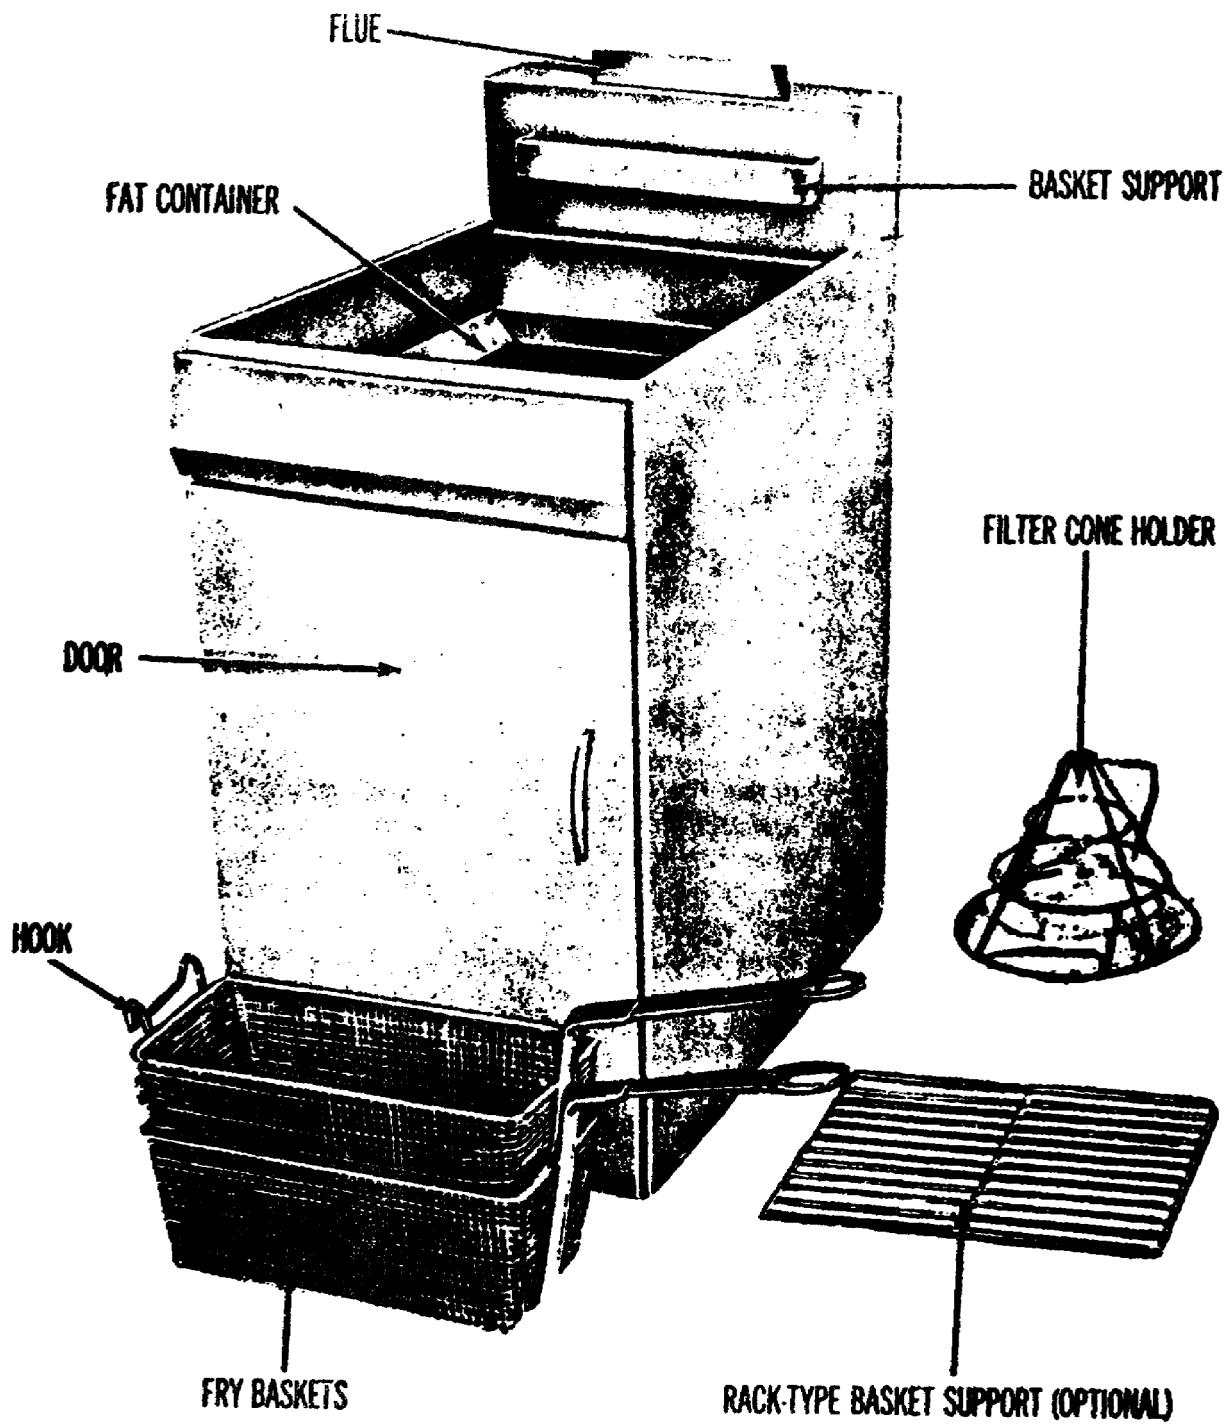
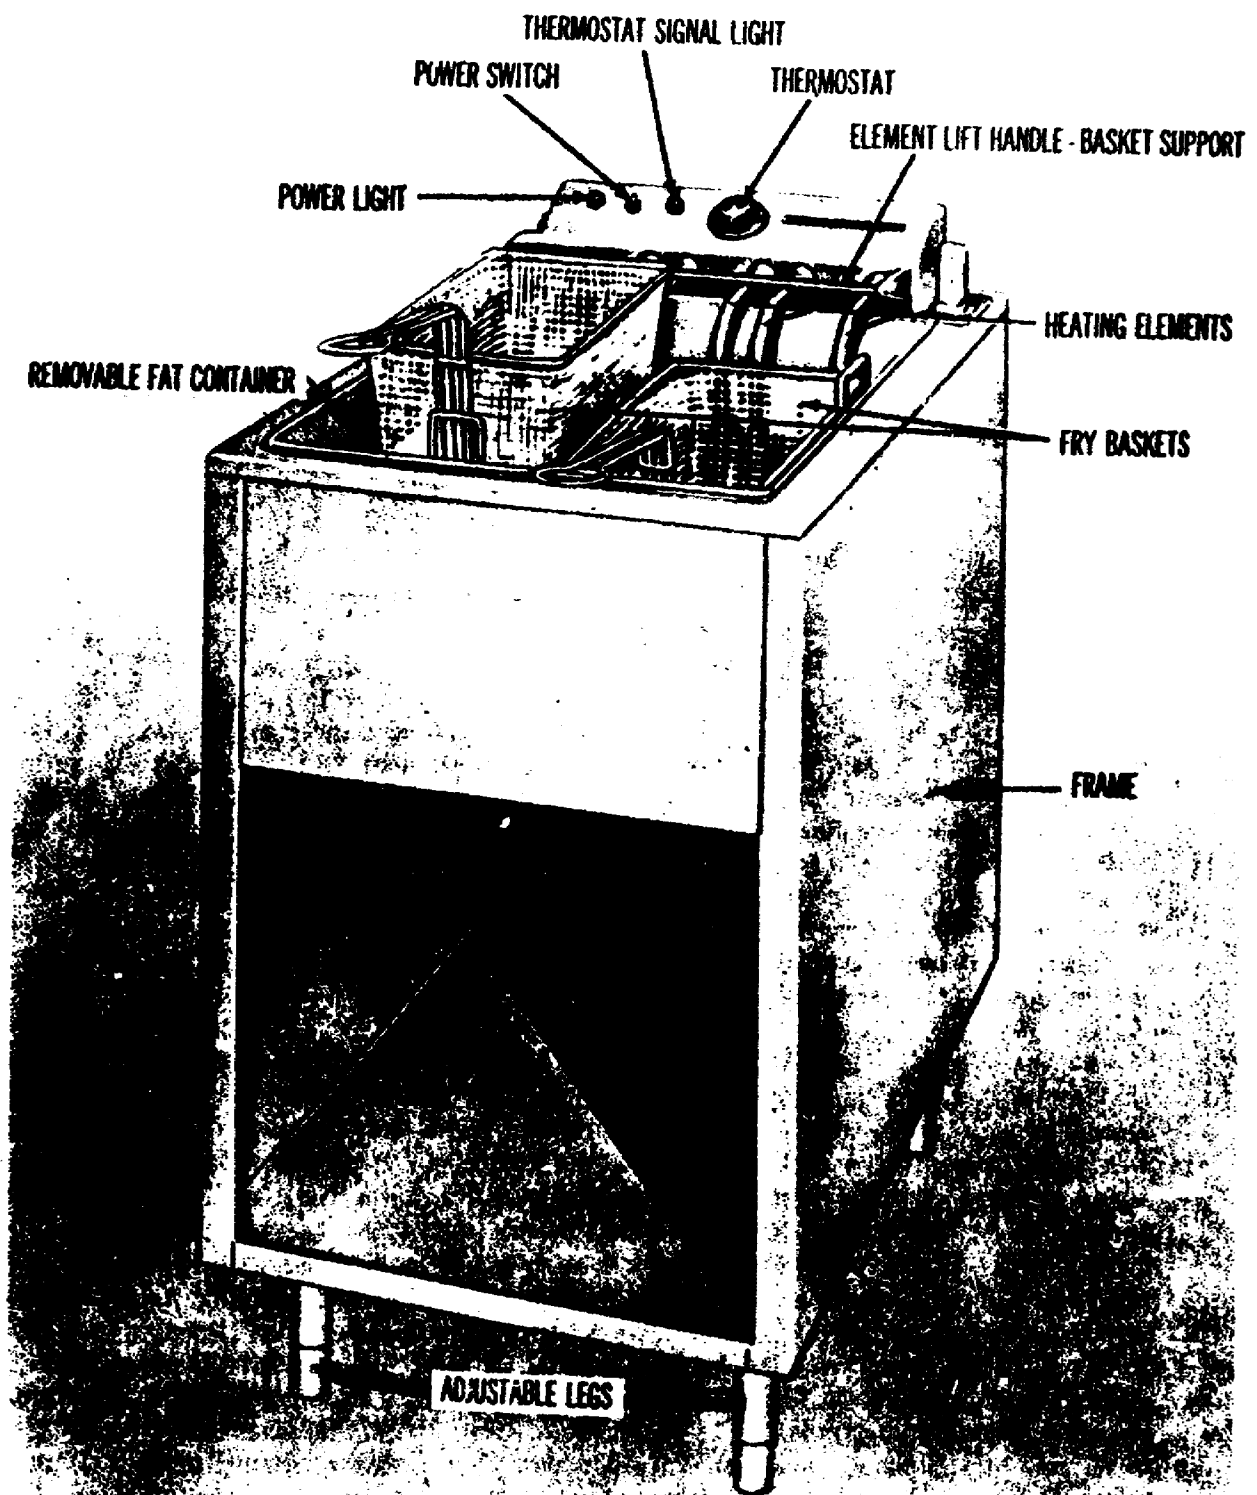

Figure 17. Gas-heated deep-fat fryer.
Figure 18. Electric deep-t fryer.
17. **DEEP-FAT FRYER.** This fryer consists of a fat container, heating unit, temperature control, and draining device. Fryers may be heated either by gas or electricity. The capacity of a deep-fat fryer is rated in the number of pounds of raw potatoes that it can fry in an hour. The capacities of authorized fryers are 30, 35, 60, or 90 pounds, and the temperature range is usually 200° to 400° F. Gas fryers (fig. 17) may be either burner or heat-tube type; both are heated by natural, manufactured, or LP gas. All models should be equipped with an automatic pilot control similar to the safety valve of a pilot burner in the gas range oven. When the thermostat dial on electric fryers (fig. 18) is turned off, the machine is off. When the thermostat dial is set to the desired temperature, a characteristic clicking sound indicates that the current is on.